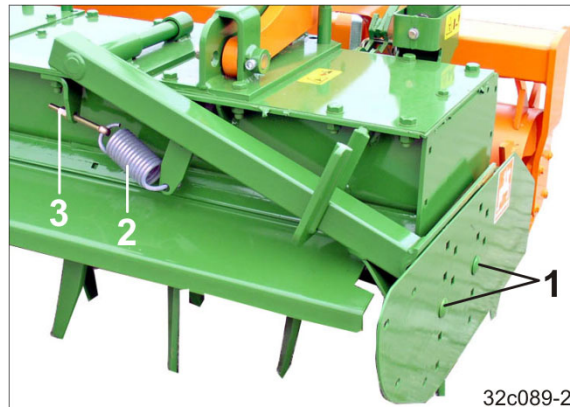

Fig. 88
The side panel is fastened with two round-head screws (Fig. 88/1) and can be adjusted vertically.
2. Adjust the tension of the spring (Fig. 88/1) by turning the nut (Fig. 88/2).